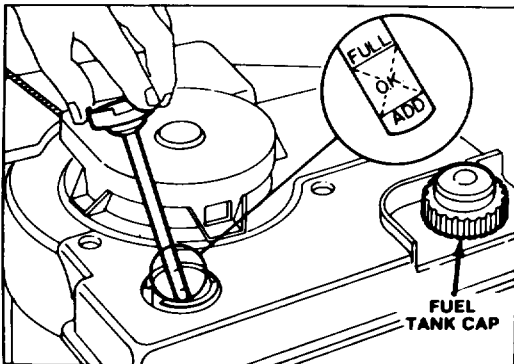

Figure 4
3. Wipe dipstick and insert it into filler neck. Rotate cap clockwise. Then remove dipstick and check oil level of oil (Fig. 4). If level is low, add only enough to raise level to FULL mark on dipstick. DO NOT FILL ABOVE FULL MARK BECAUSE ENGINE COULD BE DAMAGED WHEN STARTED.
1. Clean around fuel tank cap and remove cap from tank (Fig. 4). Using unleaded gasoline, fill fuel tank to within 1/2 inch (13 mm) from top of tank.